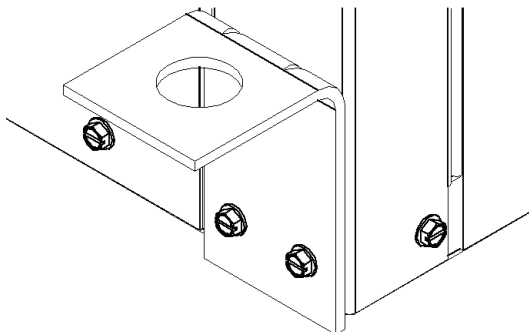

Fig. 6 — Bracket Mounting
2. Mount four brackets to unit corner post using the bolts provided in the kit as shown in Fig. 6.